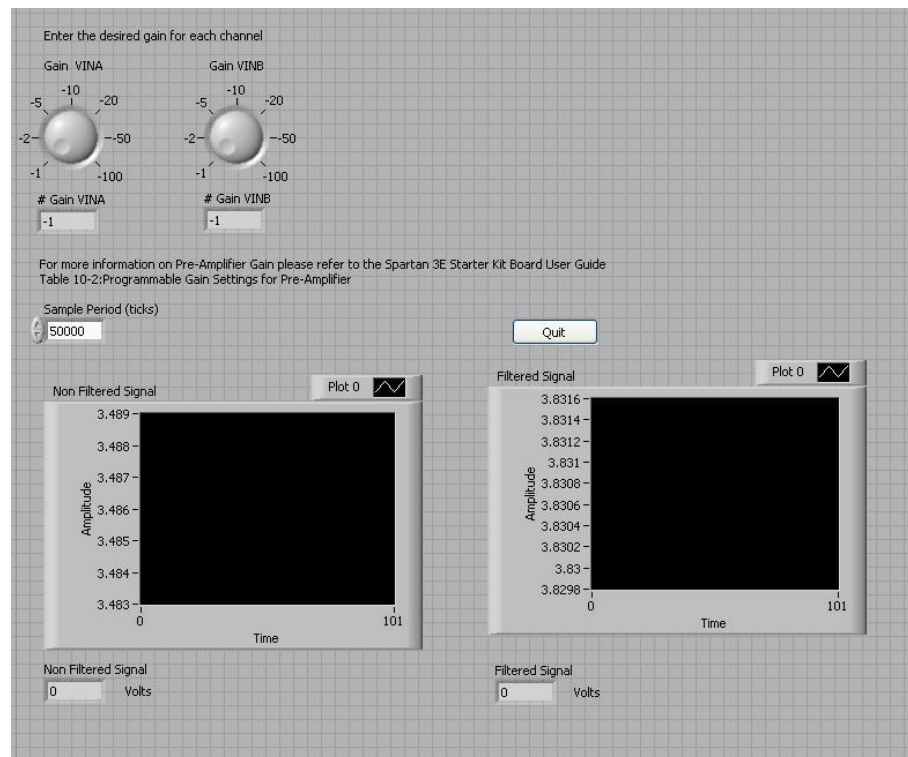

Figure 31: Final ADCHost VI Front Panel
6. Go to the front panel and drop two waveform charts. Call one chart “Filtered Signal” and the other “Non Filtered Signal”. Change the **Sample Period** to 50000 ticks. On the block diagram, wire the Filtered Signal chart on the output of the top arithmetic conversion. On the block diagram, wire the Non Filtered Signal chart on the output of the bottom arithmetic conversion. Your front panel should look similar to Figure 31.